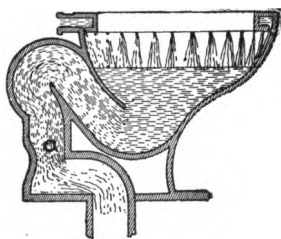

FIG. 347.—SIPHON CLOSET
**358. Siphon Closet.** The difference between the wash down and siphon types (Fig. 347) is in the outlet arm of the trap. While in the wash down type it leads directly to the soil pipe, in the siphon type it turns nearly at right angles, and is constricted at one place *a*. In this way water collects and acts as